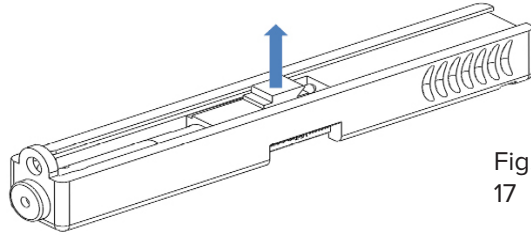

Fig. 17
9. Now the barrel assembly, figure 17 should be the only items in the readers direct work space.